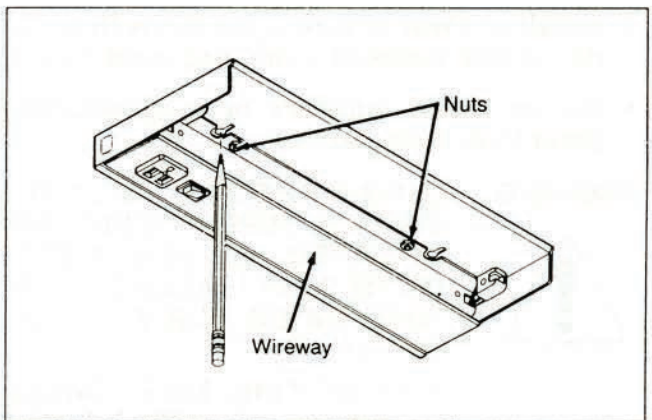

Figure 6.
3. Locate housing in desired mounting position as shown in Figure 6. Mark the location of the two mounting screws by tracing through the key slots in the housing. (Drill holes if necessary in slot sections of tracing.)
- Reposition wires neatly in the wiring compartment and close hinged wireway. Reinstall the two nuts as shown in Figure 6.